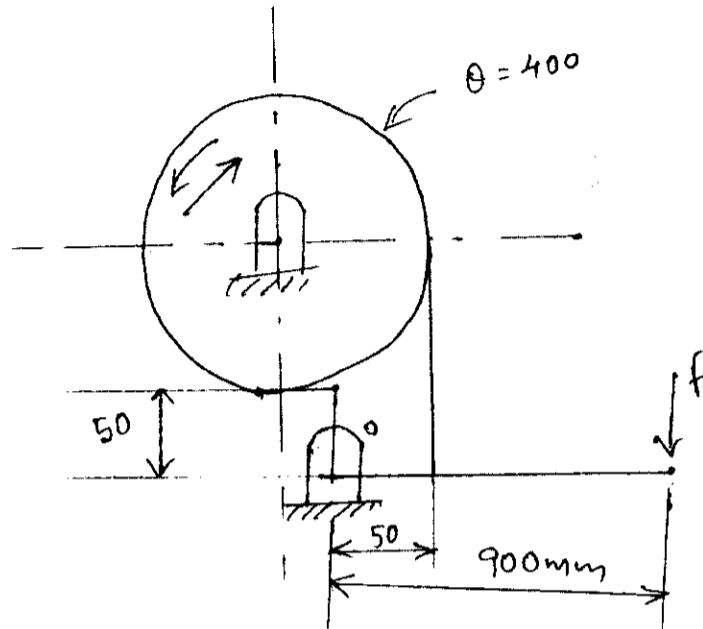

Fig. Q6 (b)
- b. The torque absorbed in the band brake shown in Fig. Q6 (b) is 400×10^3 Nmm. Design the band and lever taking $\mu = 0.27$ and diameter of drum as 400 mm. The allowable stress in band may be taken as 70 N/mm^2 . (10 Marks)